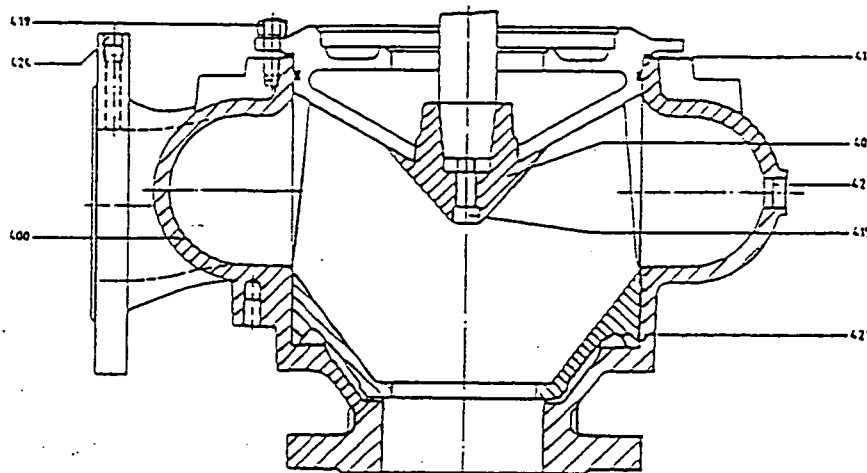

FIGURE 15: C080/D100
These pumps have a non-adjustable liner (421) held in a fixed position inside a one-piece volute casing. This liner can be pressed out of the casing. See Figure 15.
- a) **For C080/D100 (see Figure 15)**